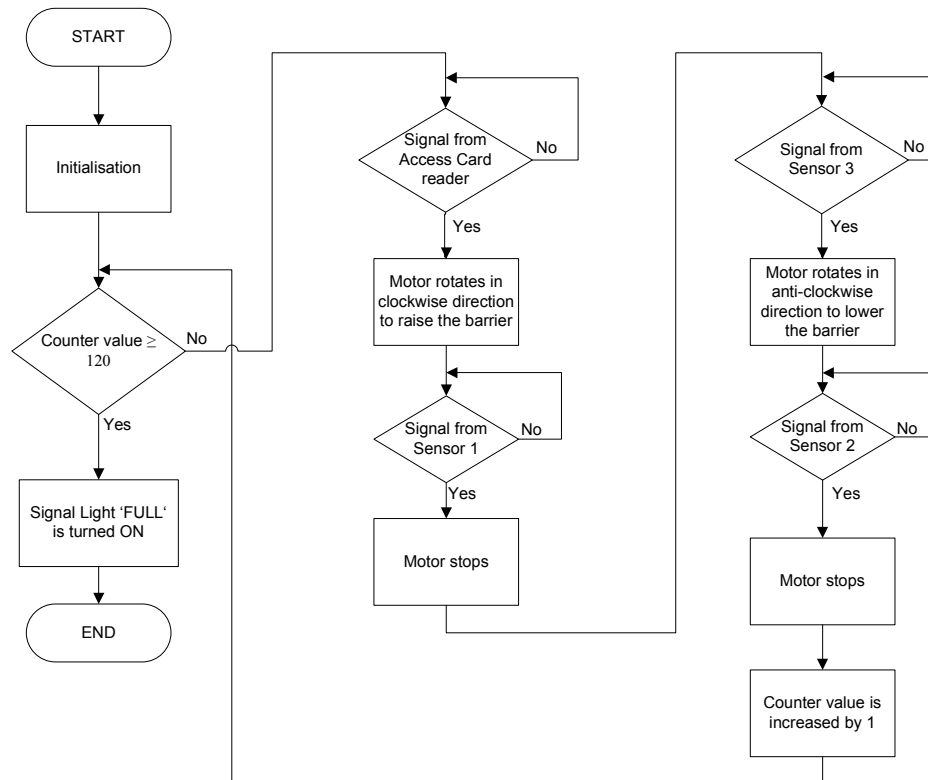

Figure 1(b)
- (a) Based on the flow chart shown in Figure 1(b), identify the input and output devices and complete the missing information for items 3, 4, 7 and 8 of Table 1 in the Answer Book. (4 marks)